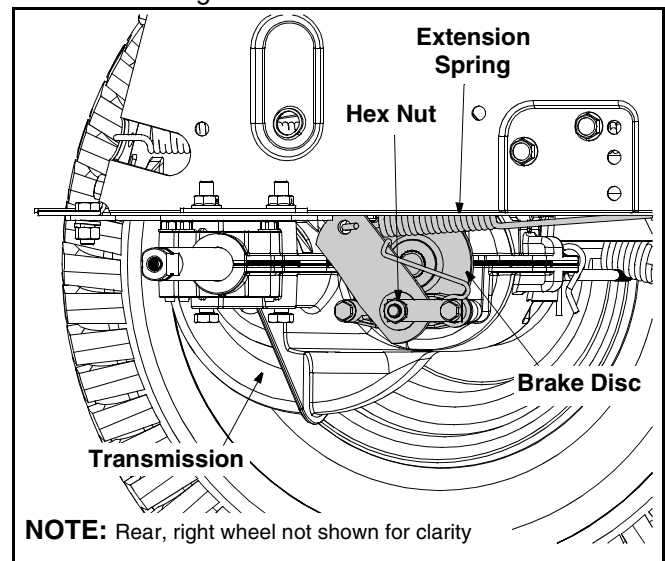

Figure 17
- Looking at the transmission from the right side of the tractor, locate the extension spring and brake disc. See Figure 17.
- Loosen, but do NOT remove, the hex nut found on the right side of the brake assembly. See Figure 17.